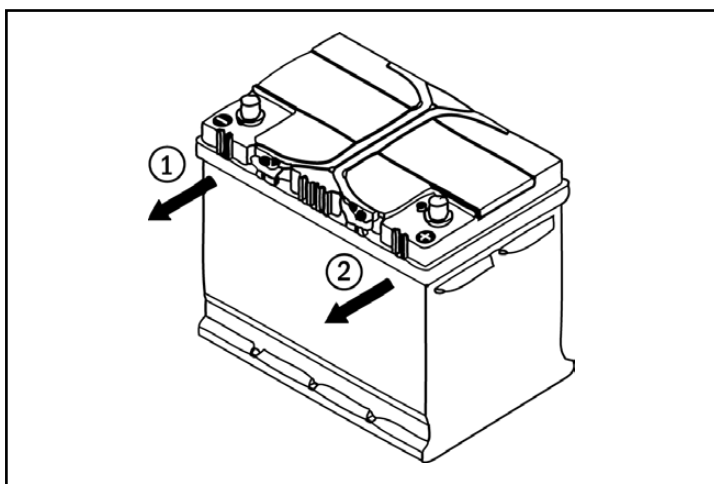

Fig. 1: Disconnecting the battery
- Disconnect the NEGATIVE pole (1) first and then the POSITIVE pole (2) (see Fig. 1).